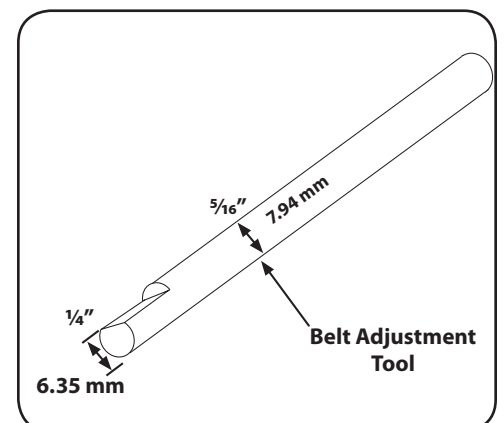

Figure 5-12
1. Before taking a measurement, be sure the linkages and pivot points on the Wheels/Tines/PTO Drive Lever are clean and lubricated. If there is any binding, you won't get true measurements. Also, you'll need the belt adjustment tool you received with your new tiller. See Figure 5-12.